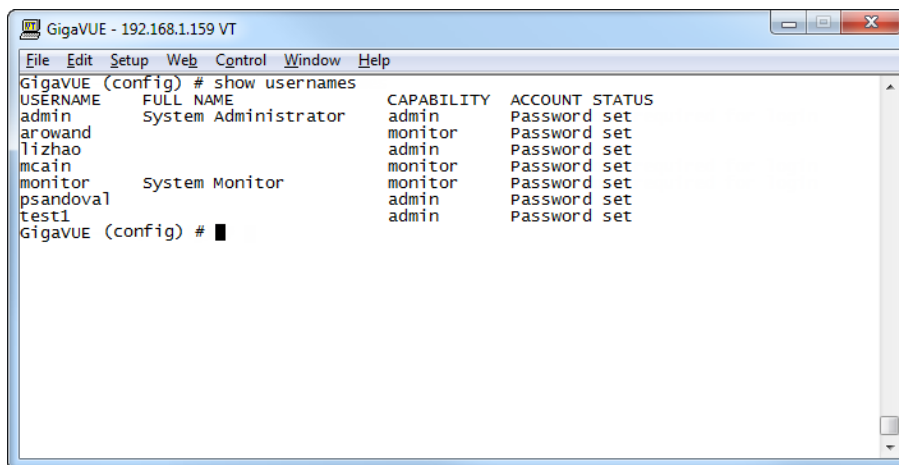

Figure 7 Reviewing the User List
- Once you have configured these basic user accounts, use the **show usernames** command to review your settings. Figure 7 Reviewing the User List shows some sample **show usernames** output after several users have been added.